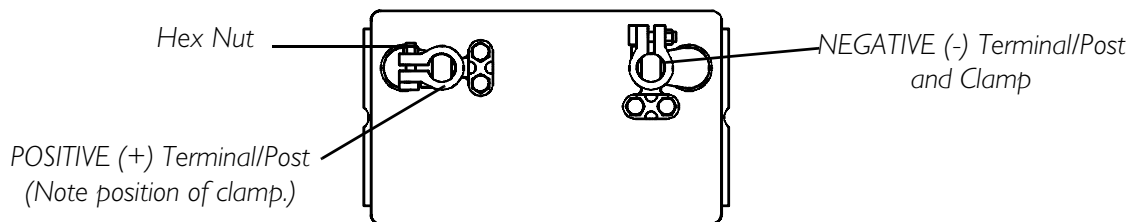

FIGURE 11.8 Connecting Battery Cables - Battery Clamp Method
- Dual Group 22NF Batteries without Mounting Holes in the Terminal(s)/Post(s) - Use battery clamp method described on page 56. Refer to FIGURE 11.8 and FIGURE 11.9.
The battery clamp of the **POSITIVE (+)** battery terminal/post **MUST** be mounted in the position shown in **FIGURE 11.8**. Otherwise, the battery box top cannot be installed properly.
NOTE: For this procedure, refer to FIGURE 11.8 and FIGURE 11.9 on page 58.
- If the battery clamp of the POSITIVE (+) battery terminal/post is NOT mounted in the orientation shown in FIGURE 11.8, perform the following:
- iii. Reposition the battery clamp on the POSITIVE (+) battery terminal/post as shown in FIGURE 11.8.
- If the battery clamp on the POSITIVE (+) battery terminal/post is positioned as shown in FIGURE 11.8, proceed to STEP 2.